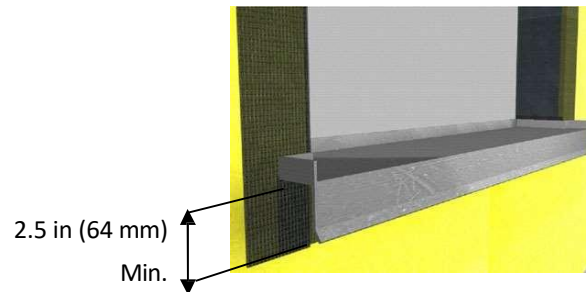

Fig. 6
- a. Install a watertight pan flashing at all sill locations - Figure 6.
- c. The flashing shall extend a minimum of 2 1/2 in (64 mm) down over the face of the Outsulation Mineral Wool System - Figure 6.